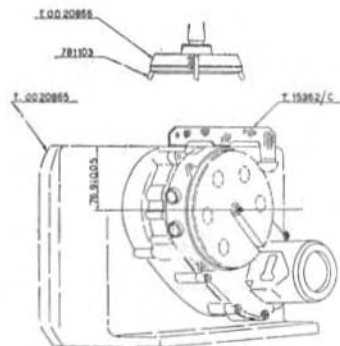

Fig. 22 - Reaming to 3.4 mm
- Place on the work holder T. 0020865 the guide plate T. 0020872 instead of guide jig T. 0020867 (see Fig. 22), then drill out to 3.4 mm (0.13") by means of reamer 400345.